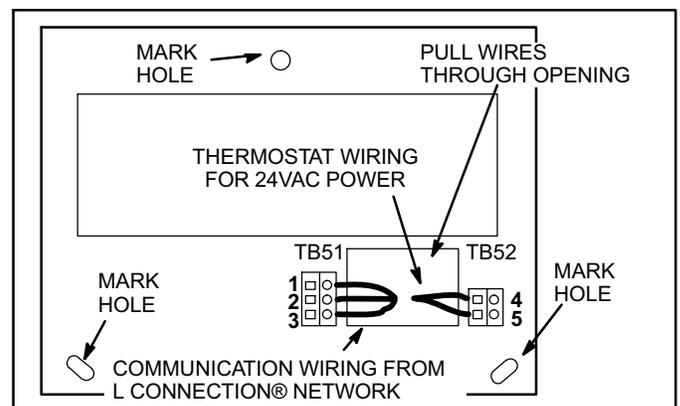

Figure 2. NCP Baseplate
4. Center the opening in the baseplate over the opening in the wall. Use the baseplate to mark and drill three holes as shown in figure 2.